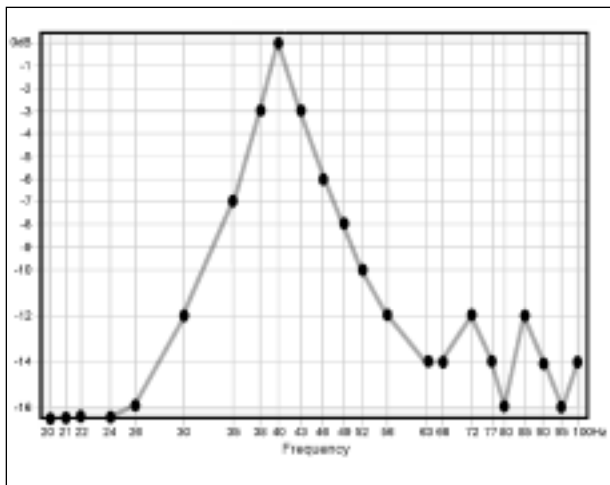

Figure 19. Narrow Response
1. Select a new test position: Cue the test track corresponding to the center frequency of the dip. In the first example in Figure 19, you would play Track 13 (56Hz). Press **Play** ►. You will see a reading very close to what you had before. Now, slowly move the RSLM around the area, if possible remaining within about a foot of the original test point. As you move the RSLM, watch the bar graph. You will observe large level fluctuations. Find a position that restores the level to approximately that of the adjacent test points. You may find it helpful to move the RSLM vertically. Dips can be oriented in any axis. The position that restores the level to about that of the adjacent test points is your new test position.